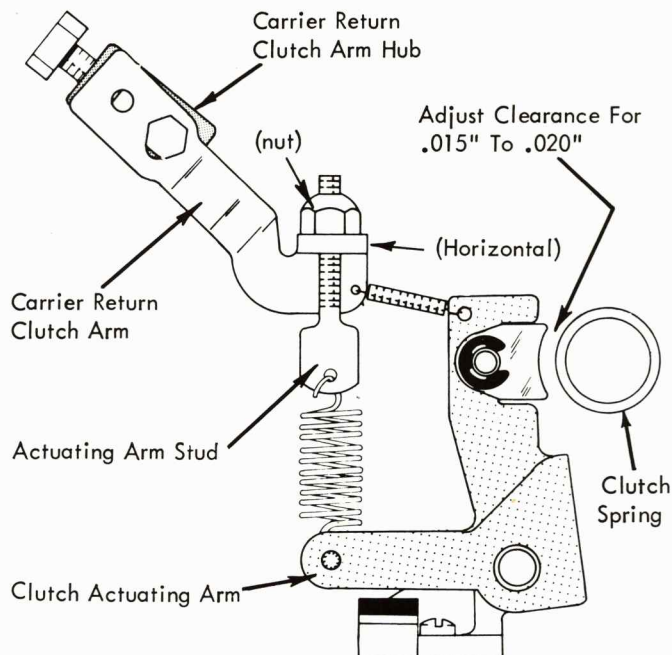

FIGURE 144. Carrier Return Actuating Arm Adjustment
4. Carrier Return Clutch Arm - Adjust the clutch arm on the carrier return clutch arm hub so that the formed lug which mounts the actuating arm stud will be horizontal when the machine is at rest (Fig. 144).
5. Shoe Clearance - The nylon shoe on the clutch actuating arm should clear the carrier return clutch spring by .015" to .020" when the machine is at rest (Fig. 144). Adjust the nut on the actuating arm stud to obtain the proper clearance.